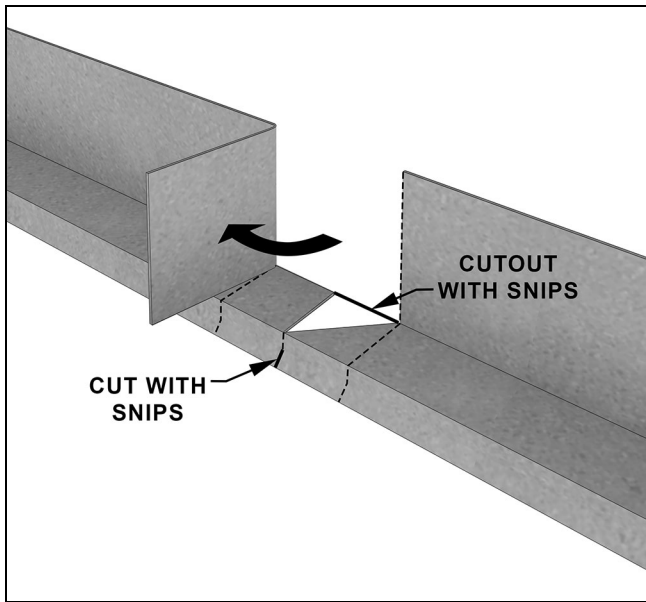

Figure 71
6. Cut out a 45 degree piece out of the horizontal surface as shown in See Figure 71. Cut the front edge of the drip, then fold the opposite vertical surface forward.